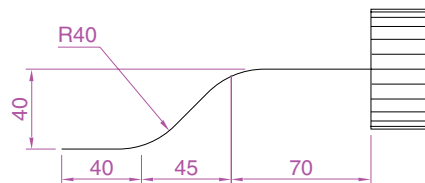

Fig. 19.1 First example –
2. In the UCS ***RIGHT*** plane construct a cylinder of radius **30** and height **30** (Fig. 19.1).
3. In the UCS ***FRONT*** view construct the pline in Fig. 19.1. Mirror the pline to the other end of the cylinder.